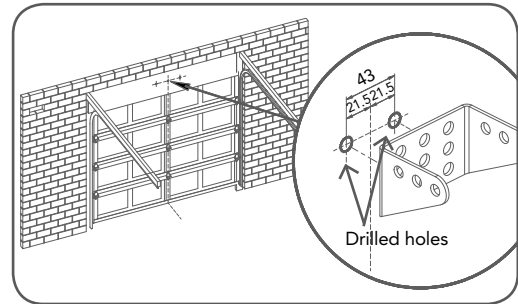

fig 11
- Determine the centre point on the wall above and on top of the door. Draw two lines extending 21.5mm from each side of the centre point. (**Fig. 11**)
- Centre the bracket over the intersection of these two lines. Mark centres for at least two holes (**Fig. 11**) and ensure it is into a solid mounting point.